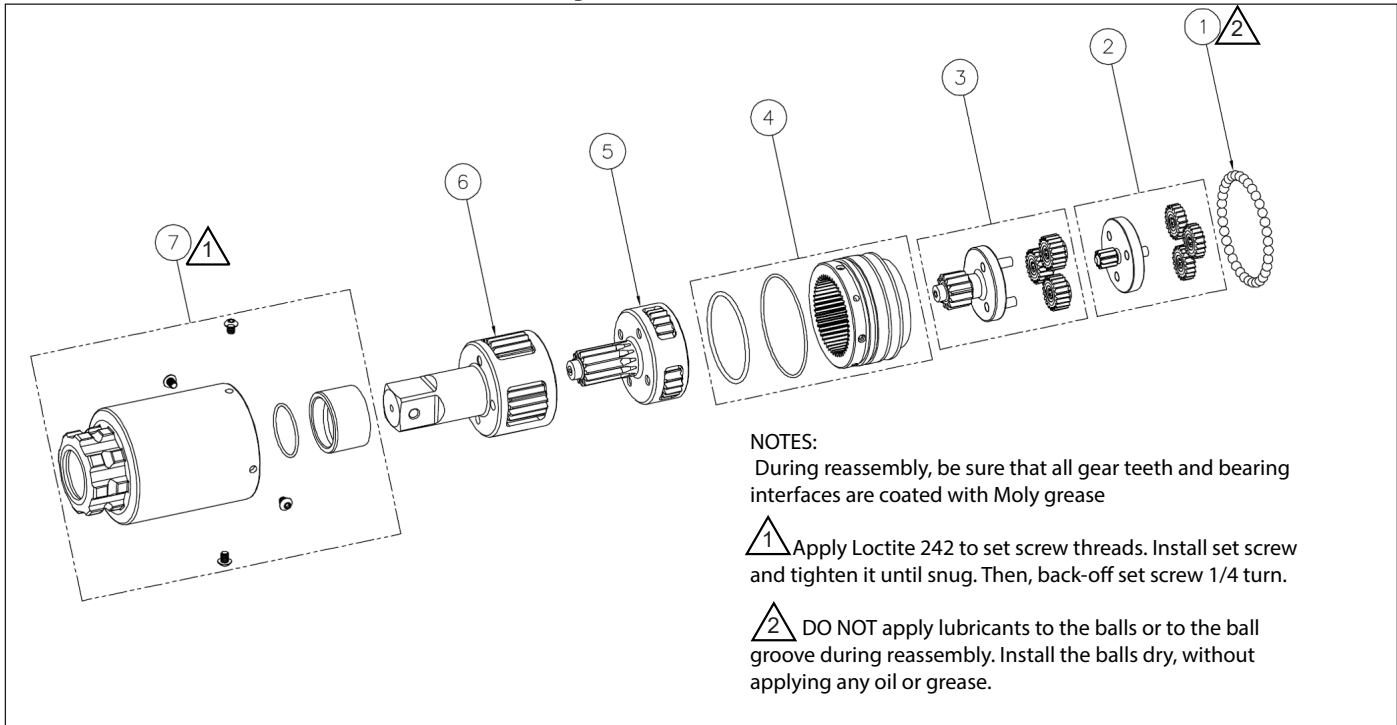

Figure 9: TW2000SR Gearbox Assembly
9.5.1 Table of Parts (Figure 9)